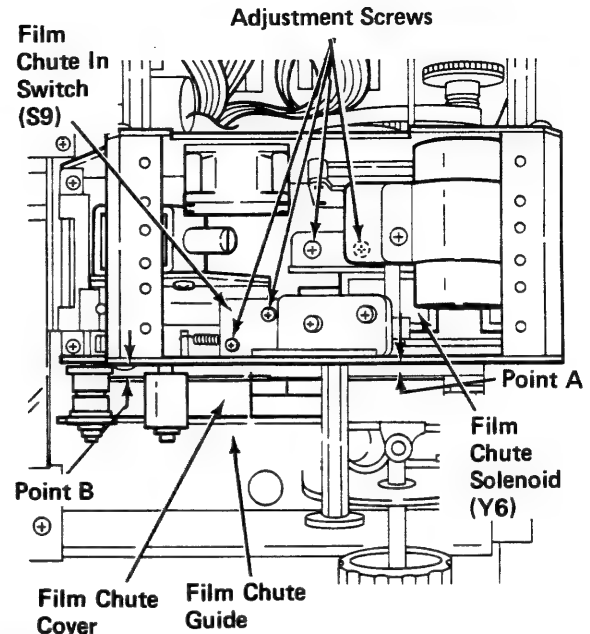

Figure 3-8A
gap at points A and B (Figure 3-8A) using Dimension C, 8.0 mm (0.315 in.), of the Adjustment Tool. The gauge should be able to move with some resistance at both points.
1. Loosen the Adjustment Screws for the Film Chute In Switch (S9). See Figure 3-8A.
2. Loosen the Adjustment Screws for the Film Chute Solenoid (Y6). See Figure 3-8A.
6. Press the Reset Button and move the Bracket (Figure 3-8B) to the right to increase the gap at Point B (Figure 3-8A) or left to decrease the gap. Using Dimension C, 8.0 mm (0.315 in.), of the Adjustment Tool, the gauge should be able to slip with some resistance.